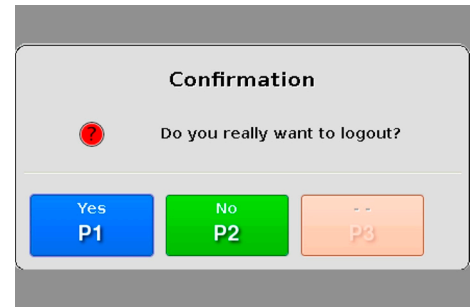

Fig. 24: Logout confirmation screen
- ▷ Select the “Logout” menu item by pressing **P1**. The logout confirmation screen (see Fig. 24) is displayed. Choose **P2** to jump back to the main screen.